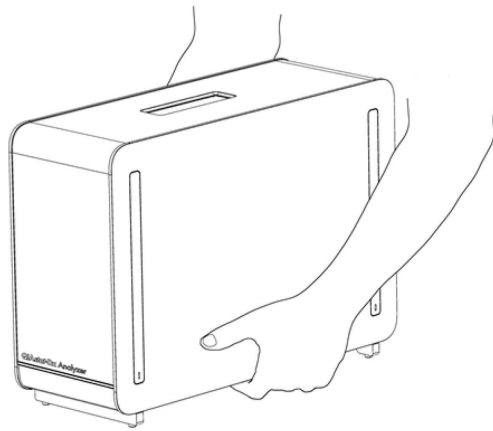

Figure 4. Proper handling of Analytical Module.
**Note:** The Analytical Module must be lifted and handled by taking it from the base with two hands, as shown in Figure 4.